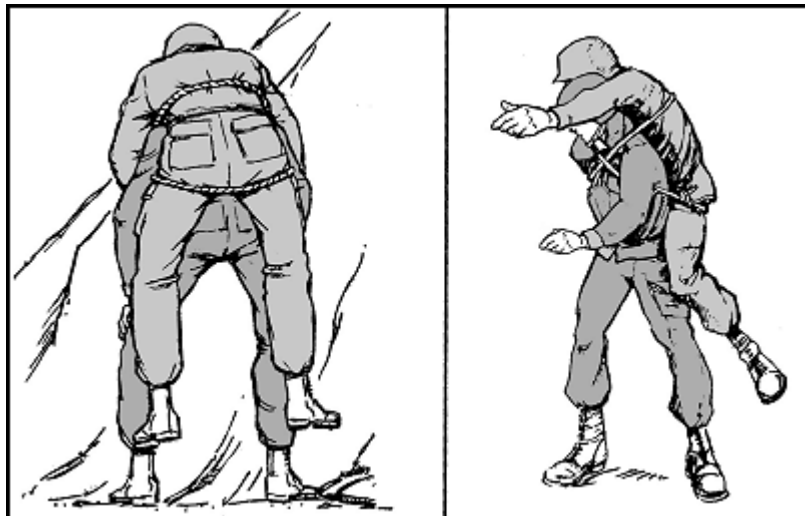

Figure 11-1. Sling-rope carry.
(1) **Sling-Rope Carry.** The sling-rope carry (Figure 11-1) requires a 4.5-meter sling rope and two men—one as the bearer and the other as an assistant to help secure the casualty to the bearer's back. Conscious or unconscious casualties may be transported this way.